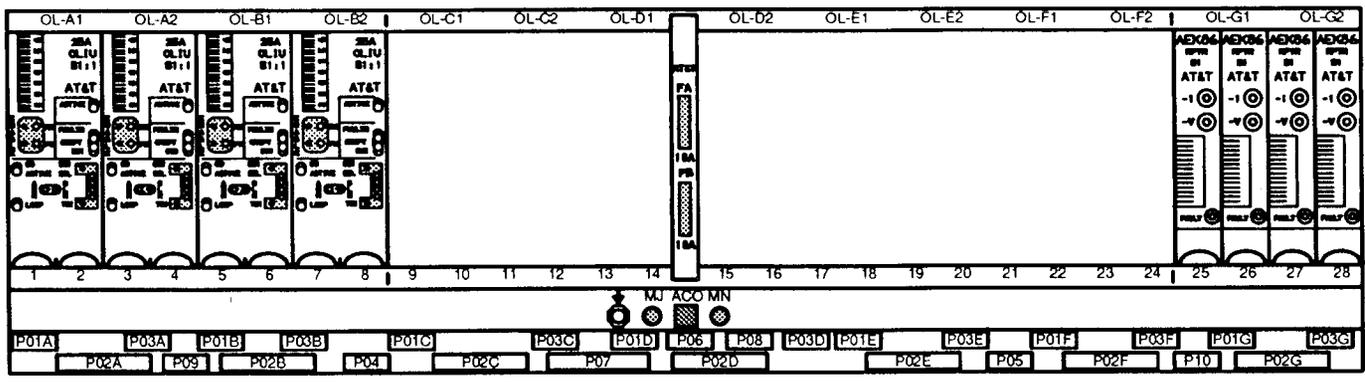

Figure 1-1. DDM-Plus Extension Shelf with Circuit Packs
The DDM-Plus J98725DB-1, L1 Extension Shelf is divided into seven groups of four DS1s each as shown in Figure 1-1. The group designations are labeled (A through G) above the circuit pack slots. Each of the 7 groups can accommodate two 25-type OLIUs or 4 T1 repeater circuit packs. The OLIUs and repeater circuit packs **CANNOT** be mixed in the same group. For mixed shelves, it is required that OLIUs grow from left to right and AEK-type repeaters grow from right to left. All connections, except the power cable and the optical fibers, are connected to the front side of the backplane, just under the circuit pack slots. The fuse card is located in the center of the shelf and contains the two 10-ampere feeder fuses. Located on the J98725DB-1, L1 shelf assembly below the fuse card is an electrostatic discharge (ESD) jack, alarm cutoff (ACO) light/button, and the Major (MJ) and Minor (MN) alarm light-emitting diodes (LEDs).